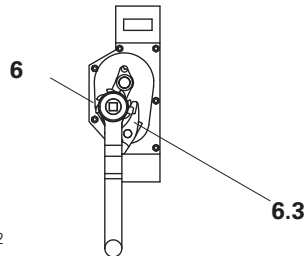

Fig. C1.02
1. Free movement of the Lifting Frame (1). Lifting Frame can be extended and retracted to maximum and minimum lengths.
4. Check the free movement of the Winch (6). Winch must not slip on the toothed track or be sluggish when used.
5. The locking pawl (6.3) on the winch (6) must be checked for functionality. The locking pawl must close automatically. (Fig. C1.02)